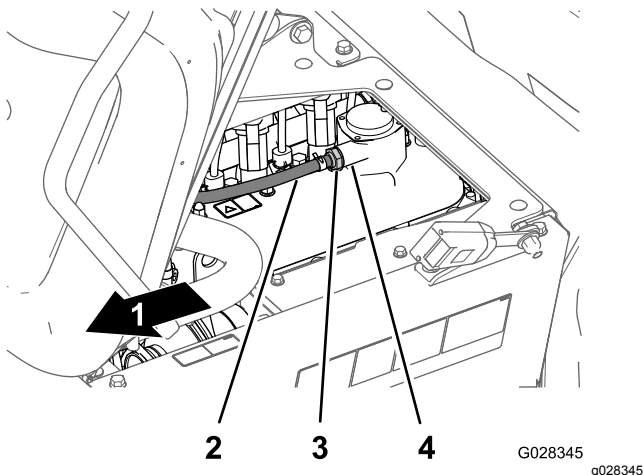

Figure 71
2. Remove the PCV valve from the fitting of the valve cover (Figure 71).
Note: If the internal restrictor of the valve rattles, the PCV valve is servicable; if the internal restrictor is not free to rattle when shaken, replace the PCV valve (Figure 71).
4. Insert the PCV valve until it is fully seated in the seal for the valve-cover fitting (Figure 71).